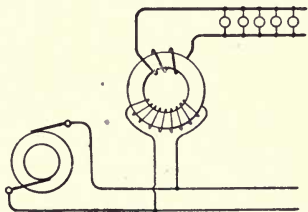

FIG. 92.—A Transformer.
A transformer (Fig. 92) consists of three parts: (1) the primary coil, which is the wire which connects with the alternating current from the supply lines; (2) a core of iron; (3) and a secondary coil or wire in which is generated an electromotive force by the change of magnetism in the core which it surrounds.